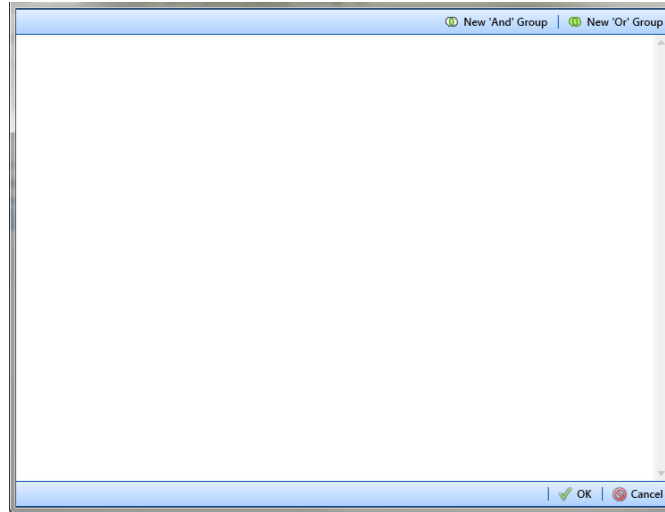

Figure 10-29. Edit Filter
- 8 If you want to set up one or more filters that apply to *all* data items in the export definition, click  **Edit** in the *Filters* group box to open the *Edit Filter* dialog box (Figure 10-29).